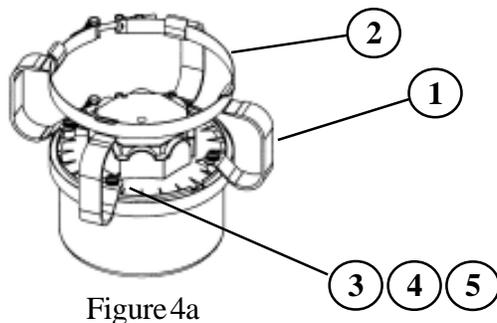

Figure 4a
- A.** Mount the four brackets (Item #1) to the threaded mounting holes in the junction box lid using a philips panhead screw (Item #3), a flat washer (Item #4), and a split lock washer (Item #5) for each as shown in Figure 4a. NOTE: The power and light cords are not shown in order to simplify the figures.
- B.** Place the band clamp (Item #2) loosely around the brackets as shown in Figure 4a.